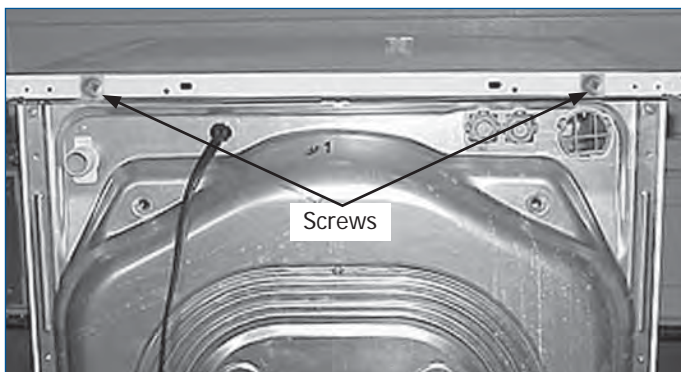

Figure 4-7.
2. Extract the (2) screws from the rear of the top, slide the top back and lift it off. (See Figure 4-7)